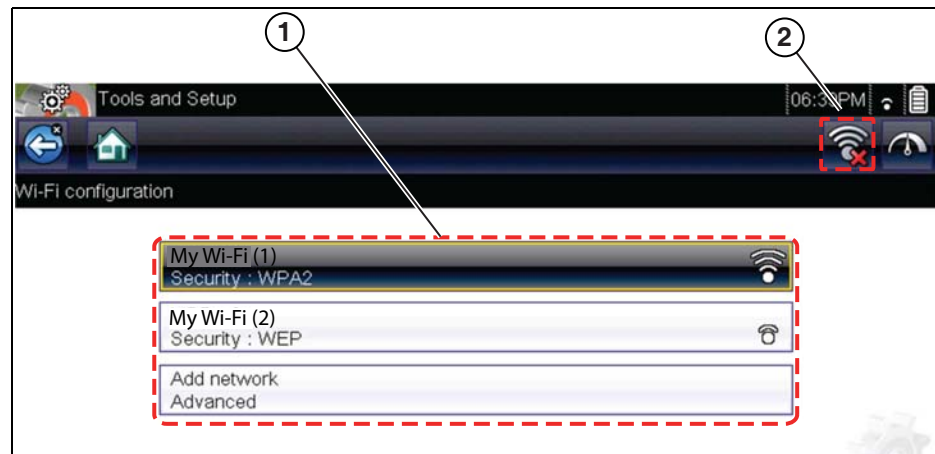

Figure 7-9 Wi-Fi Configuration Screen
3. Select your wireless network from the list (*typical list shown below*), then select **Connect**. (Figure 7-9).